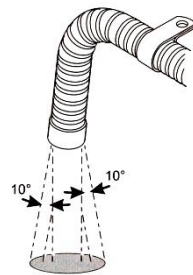

Fig.27
4.6.6 When the heat is working, the exhaust pipe is at high temperature. In installation, make sure to install it in far distance from plastic parts or other objects with poor thermal resistance of the vehicle body. The exhaust pipe shall be properly fixed. The exhaust vent shall be downwards, perpendicular to road surface with an angle of  $90^\circ \pm 10^\circ$ . To ensure such an angle, the fixing clamp for the exhaust pipe shall be within 150mm from the pipe end. (Fig. 27)